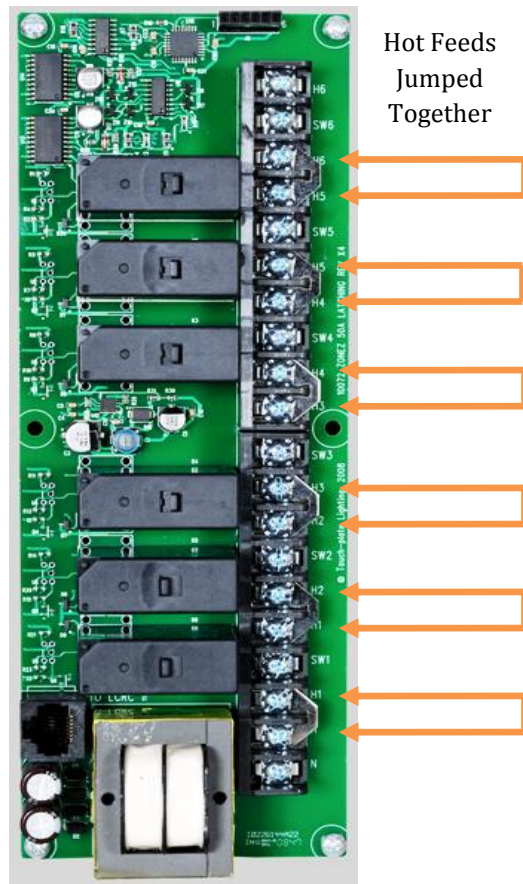

Figure 6.2
Figure 6.2 shows a 10072 Relay Board. The 10072 Relay Board has mechanically latching relays that are rated at 50AMPS. There are 6 relays and a transformer per board. The transformer performs the same functions as the TVR-1 / TPS-0120, which supplies power to the relay and the low voltage circuitry. The 10072 Relay Board uses 20-AMP electrically held relays. The Relay Board will come from the factory with ‘jumpers’. ‘Jumpers’ allow all six (6) relays to share one (1) hot feed. If more than one (1) hot feed is desired or needed, the jumper(s) can be removed so the new hot feed can be wired.